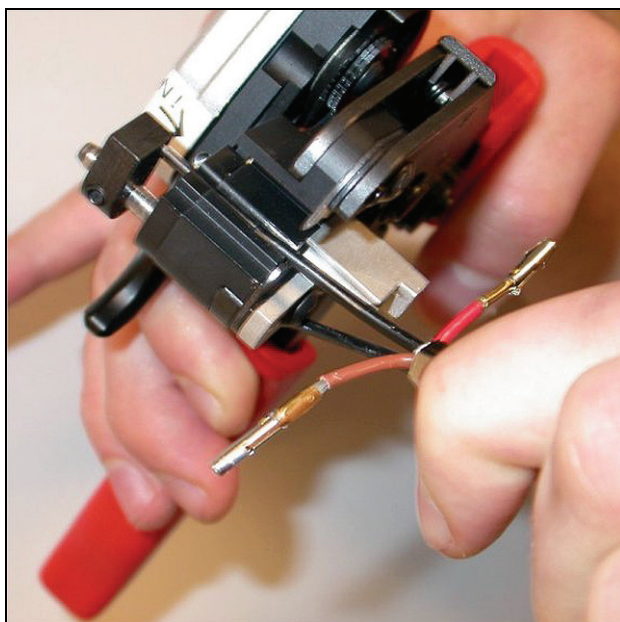

figure 30.19: Stripping a fiber
- 16 Slide one of the fibers into the front part of the POF cutter/stripping tool (tool 6, see figure 30.19).